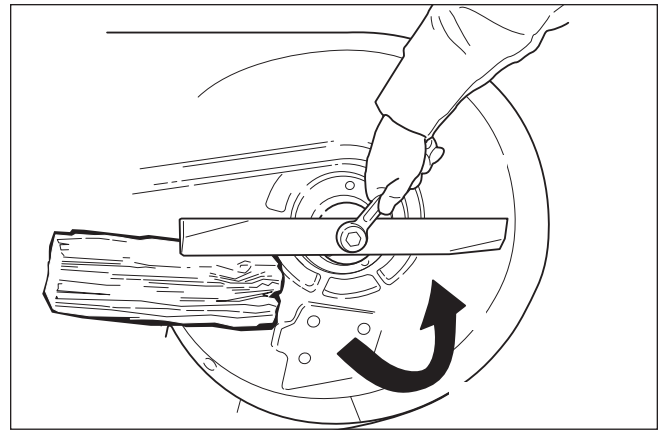

Figure 25. Loosening the Mower Blade for Removal
2. To remove the mower blade, use a 15/16" wrench to remove the mower blade mounting bolt (Figure 25).